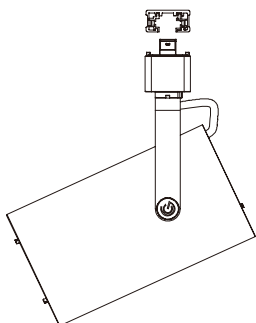

Fig. 2
3. Insert the head into the slot of the track rail making sure ground line is parallel with the ground pin. (Fig. 2) *Note: The grounding contact direction.*